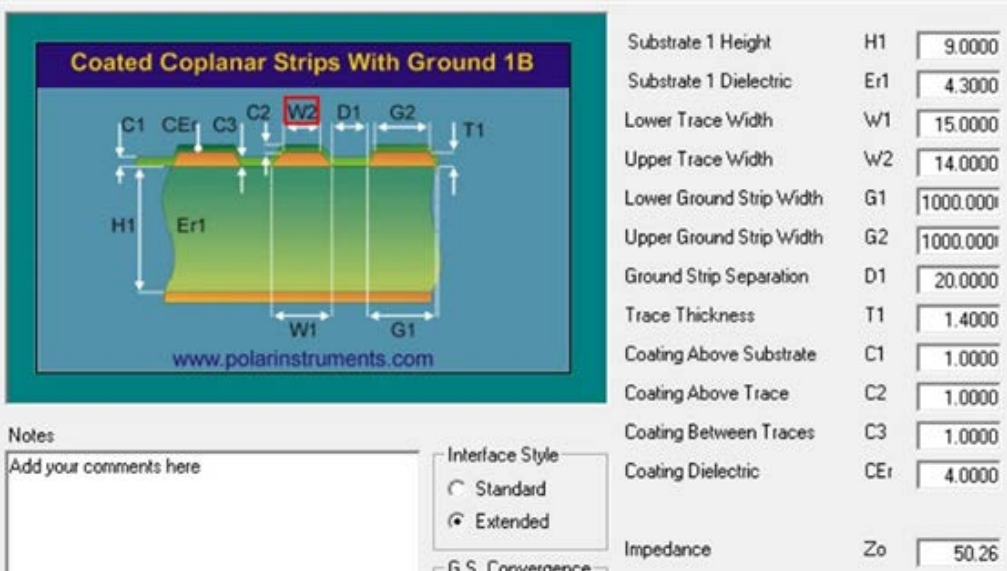

Figure 5-24 : Example of 50Ω Transmission Line Design for 4-Layer PCB Stack-up
- The dielectric thickness between the TOP layer implementing RF transmission line and L2 layer implementing reference ground plane. (e.g. H1=9mil in the Figure 5-24)
- The dielectric constant of dielectric material. (e.g. Er1=4.3 in the Figure 5-24)
- The dielectric constant of coating material. (e.g. CEr=4.0 in the Figure 5-24)
- The dielectric thickness of coating material. (e.g. C1=C2=C3=1mil in the Figure 5-24)
- The ground strip separation. (e.g. D1=20mil in the Figure 5-24)
- The copper thickness of the RF transmission line. (e.g. T1=1.4mil in the Figure 5-24)